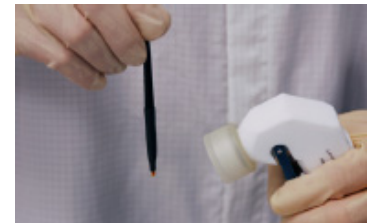

Figure 1
1. Aiming the air nozzle away from the microscope and work area, blow out any debris in the brush head (see Figure 1).
2. Use a squeeze bottle of IPA or methanol to wet the brush (see Figure 2), and then blow out the brush head again (see Figure 1).